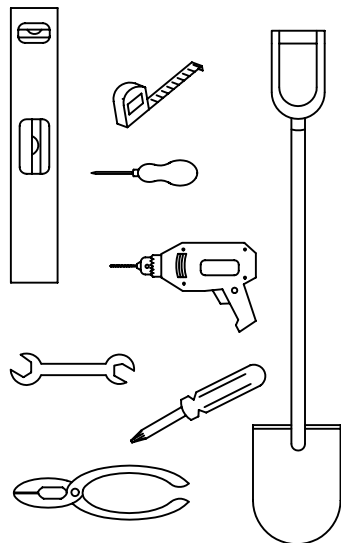

FIG. 1
- 1. WEATHER WARNING ! DO NOT ERECT YOUR BUILDING ON A WINDY DAY. ANY BUILDING LEFT PARTIALLY CONSTRUCTED MAY BE SERIOUSLY DAMAGED (FIG.1).**
- 3. ALL ASSEMBLY OPERATIONS MUST TAKE PLACE ON A COMPLETELY LEVEL SURFACE (FIG. 1)**
- 1. TEMPÊTE DE VENT: NE JAMAIS MONTER VOTRE ABRÍ PAR GRAND VENT. NE PAS LAISSER UN ABRÍ PARTIELLEMENT MONTÉ, LES PIÈCES POUVAIENT ÊTRE ENDOMMAGÉES (FIG. 1).**
DOIVENT ÊTRE RÉALISÉES SUR UNE SURFACE PLANE (fig 1).
- 1. AVISO DE TEMPESTADE! NÃO PROCEDA À MONTAGEM DO SEU ABRIGO NUM DIA VENTOSO. QUALQUER ABRIGO DEIXADO PARCIALMENTE MONTADO PODE FICAR SERIAMENTE DANIFICADO (FIG. 1).**
- 3. TODAS AS OPERAÇÕES DE MONTAGEM DEVEM SER EFECTUADAS NUMA SUPERFÍCIE COMPLETAMENTE NIVELADA (FIG. 1).**
1. PRESTE ATENCIÓN A LA METEOROLOGÍA. NO INTENTE LEVANTAR EL EDIFICIO EN UN DÍA DE VIENTO. CUALQUIER COMPONENTE QUE QUEDE A MEDIO MONTAR PUEDE SUFRIR DAÑOS IMPORTANTES. (FIG. 1).
3. TODAS LAS OPERACIONES DE MONTAJE DEBEN DE REALIZARSE SOBRE UNA SUPERFICIE TOTALMENTE PLANA Y AL MISMO NIVEL. (FIG. 1)